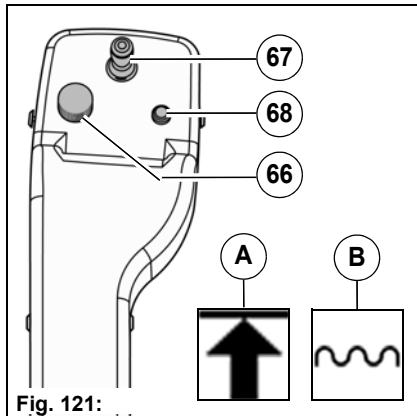

Fig. 121:
- The information symbol **Fig. 121-A** appears in the upper end position.
- The information symbol **Fig. 121-B** appears in the floating position.